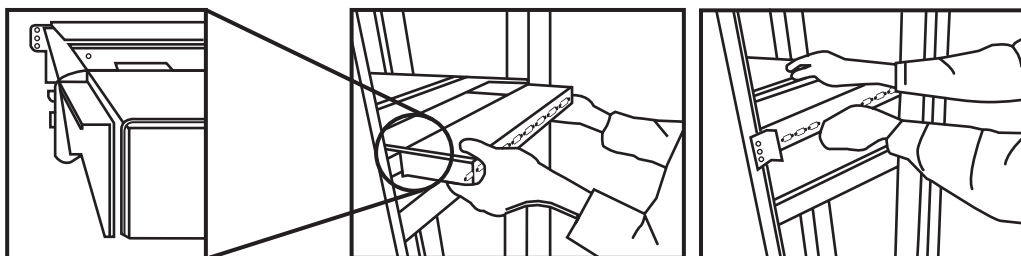

Figure 3-8. Pushing the module towards the drawer.
- Push the KVM switch module evenly towards the drawer. See Figure 3-8.